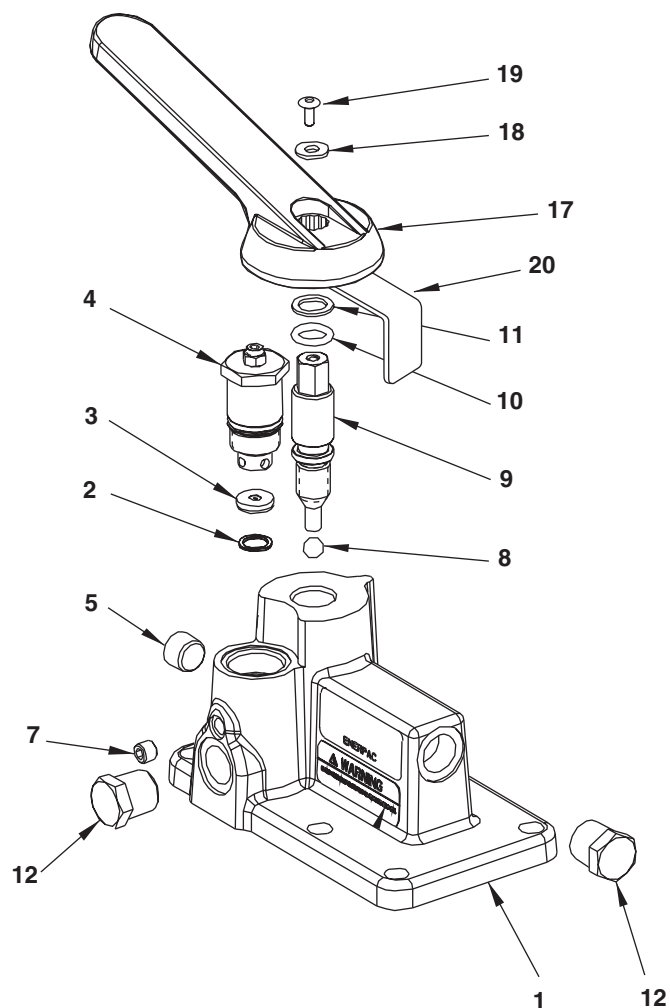
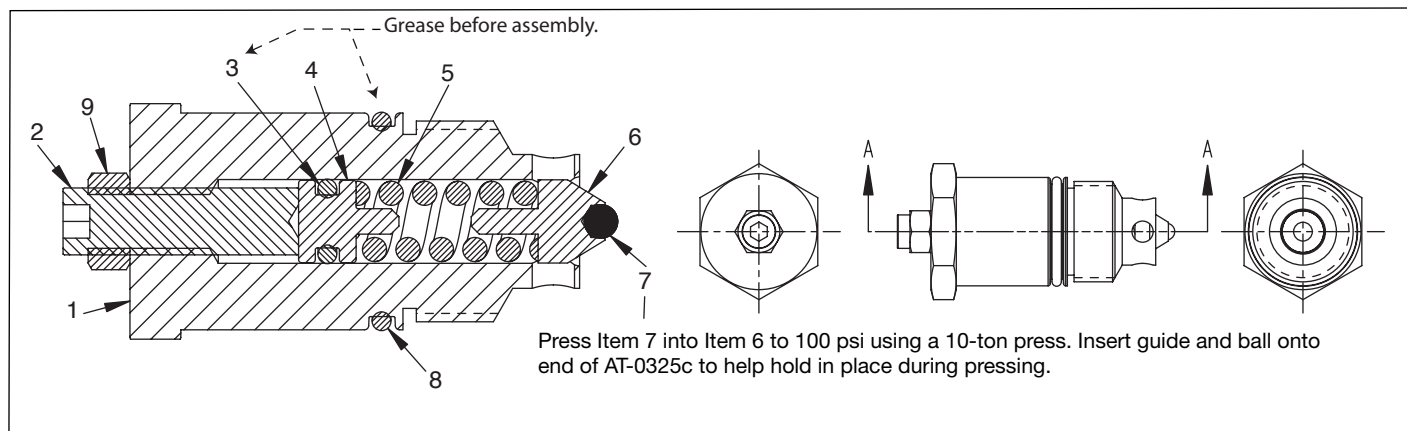

Figure 2, VM32 Manual Valve Assembly
Figure 3, User Adjustable Relief Valve Assembly
Repair Parts List for Figure 2
Repair Parts List for Figure 3
1. Inability to obtain any pressure may be the result of damaged connector seals on the pump, or failed relief valve components (items 6,7 figure 3) or damaged ball (item 8, figure 2). These problems are usually a symptom of contaminated hydraulic oil. The system should be drained and refilled with fresh ENERPAC hydraulic oil.
4. Leakage observed on the external surfaces around the stem (item 9) is an indication that the oring (item 10) and backup ring (item 11, figure 2) needs to be replaced.
5. Leakage observed on the external surfaces around the relief valve body (item 4, figure 2) is an indication that the oring (item 8, figure 3) needs to be replaced.
3. Remove the screw (item 19, figure 2) and washer (item 18) from the stem (item 9).
4. Remove the handle (item 17), retainer (item 20) and unscrew the stem (item 9) from the body (item 1).
5. Inspect the stem for damage from ball (item 8) and replace if needed.
6. Inspect the o-ring (item 10) and backup ring (item 11) for damage. Replace if needed.
8. Loosen lock nut (item 9, figure 3) and unscrew the set screw (item 2, figure 3).
9. Using a 7/8 socket, loosen and remove the relief valve assembly (item 4, figure 2) from the body.
10. Remove the seat (item 3, figure 2) from the body.
12. Inspect the o-ring (item 8, figure 3) for damage and replace if necessary.
13. Inspect the ball (item 7, figure 3) and guide (item 6, figure 3). Replace if necessary. (Note use of tool AT0325C.)
14. Remove the pipe plugs (item 5,6,7, figure 2) and clean the body. Inspect body for damages.
1. Install new pipe plug (item 7, figure 2) and torque to 10-12 ft-lbs [13-16 N m]. Install pipe plug (item 5) and torque to 32-39 ft-lbs [43-52 N m]. Install new pipe plug (item 12) and torque to 10-12 ft-lbs [13-16 Nm],
2. Install copper gasket (item 2) onto seat (item 3), with round edges facing away from the seat.
6. Place ball (item 8) into body.
7. Thread in stem (item 9) with item 10 and 11.
8. Install handle (item 17), retainer (item 20), washer (item 18) and screw (item 19) onto the end of the stem (item 9).
1. Une défaillance au niveau de la pression peut provenir de joints connecteurs endommagés sur la pompe, d'un composant défectueux de la soupape de retour (articles 6 et 7, figure 3) ou une bille endommagée (article 8, figure 2). Ces problèmes indiquent normalement une huile hydraulique contaminée. Le système devrait être vidangé puis rempli avec une huile hydraulique ENERPAC neuve.
4. Une fuite, sur les surfaces externes, autour de la tige (article 9) indique que le joint torique (article 10) et la bague d'appui (article 11, figure 2) ont besoin d'un remplacement.
5. Une fuite, sur les surfaces externes, autour du corps de la soupape de retour (article 4, figure 2) indique que le joint torique (article 8, figure 3) doit être remplacés.
3. Enlever la vis (article 19, figure 2) et la rondelle (article 18) de la tige (article 9)
8. Desserrez l'écrou de blocage (article 9, figure 3) et dévissez la vis de calage (article 2, figure 3).
9. À l'aide d'une douille de 22,2 mm (7/8 po), desserrez et déposez la soupape de retour (article 4 figure 2) du corps.
10. Retirez le siège (article 3, figure 2) du corps.
12. Inspectez le joint torique (article 8, figure 3) pour tout signe de dommages et remplacez le cas échéant.
13. Inspectez la bille (article 7, figure 3) et le guide (article 6, figure 3). Remplacez-les cas échéant. (Ne pas utiliser l'outil AT0325C).
14. Déposez les capuchons du tuyau (articles 5-6-7, figure 2) et nettoyez le corps. Inspectez le corps pour tout signe de dommages.